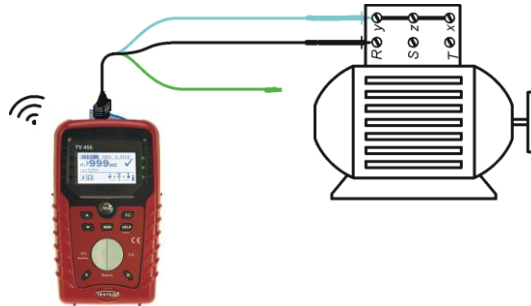

Figure 5.11: 3-wire test lead application
- ❑ **Connect** test leads to the tested object (see *figure 5.11*).